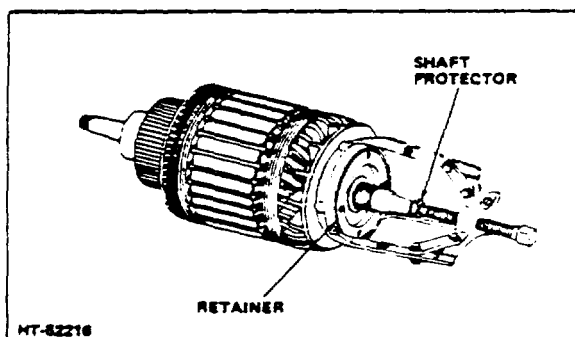

Figure 5-2. Removing Bearing Retainer
9. Use a gear puller and remove the retainer from the armature shaft. The oil seal and bearing will come off with the retainer (Fig 5-2).
Use extreme care whenever a gear puller is used or center of shaft will be damaged. It is recommended to use a shaft protector (Fig 5-2) when a gear puller is used.